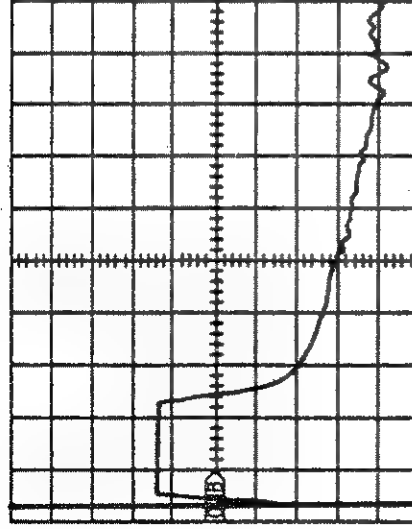

Fig. 3-3. Long Pulse Display.
6. Set the DIST/DIV to 200. The display should resemble that shown in Figure 3-3.
12. Push PULSE MEDIUM. The waveform should appear approximately halfway between those seen in Figures 3-3 and 3-4.